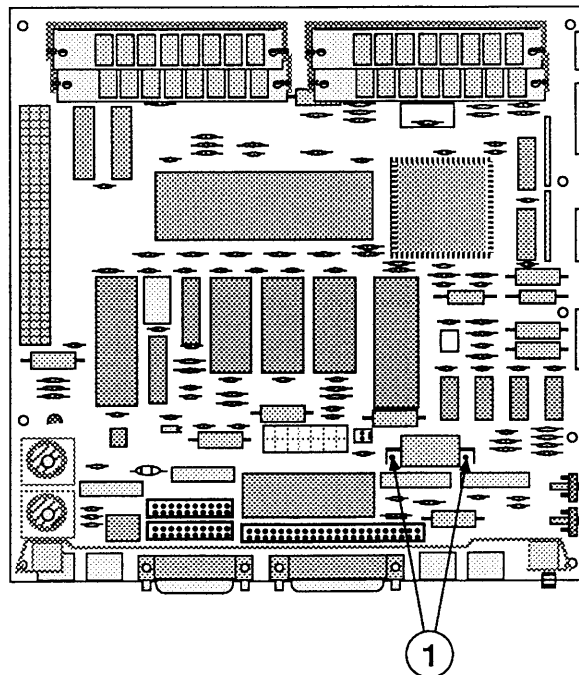
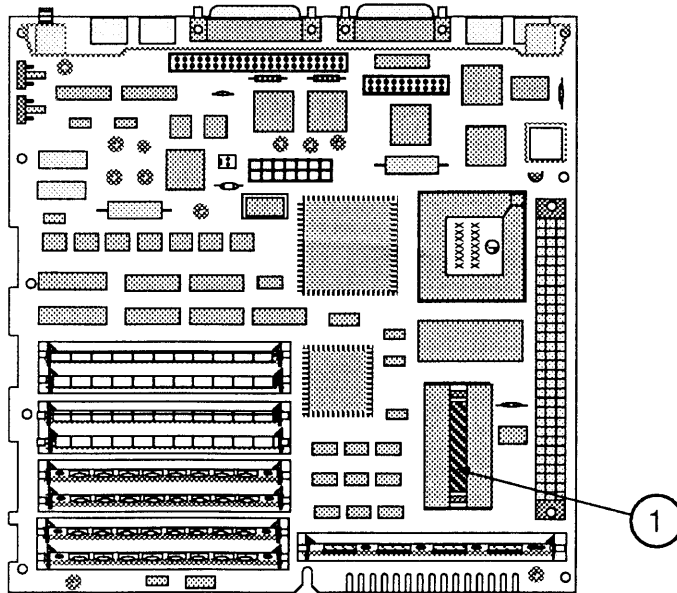

FIGURE 1
FIGURE 2
2. Locate the lithium battery. Figure 1, #1 shows the location of the battery on a Macintosh SE logic board; Figure 2, #1 shows the battery location on a Macintosh SE/30 logic board.
Note: The battery in the Macintosh SE/30, and in all Macintosh SEs sold after August 1989, is installed in a plastic battery holder. It may be necessary to remove the battery holder cover (Macintosh SE/30 only) (Figure 2, #1) and pull out the battery by hand to measure battery voltage.